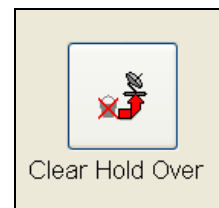

Figure 6.14.1
2. From the List of icons to the right of the "Speed Communications" screen select the Clear Hold Over Icon (Figure 6.14.1).